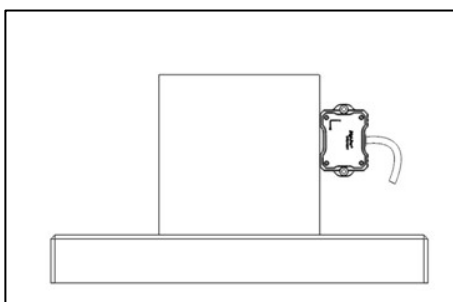
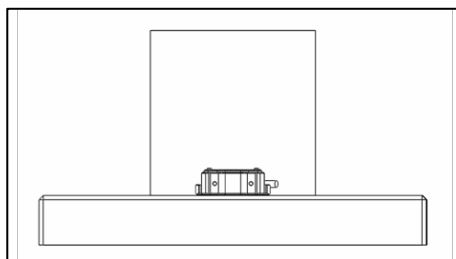

Figure 37. Tilt Sensor Module Position of Calibration Step 3
Figure 42. Tilt Sensor Module Position of Calibration Step 8
9. For **DWL5000XY** model, repeat step 3 to step 8. Please locate the sensor module in following positions (refer to Figure 37 to Figure 42) respectively.